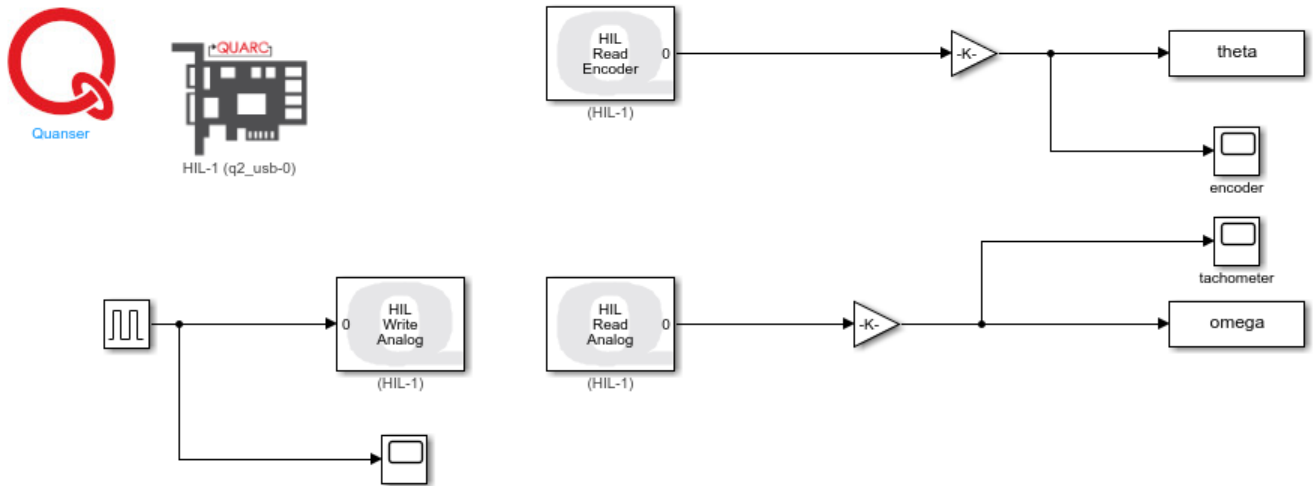

Figure 2.5: Simulink model for pulse generated response in Lab 2
10. To obtain a “better” impulse, we introduce the **Pulse Generator** model as shown in Figure 2.5. Note that the analog output icon has been added since the impulse will be added automatically in this case.